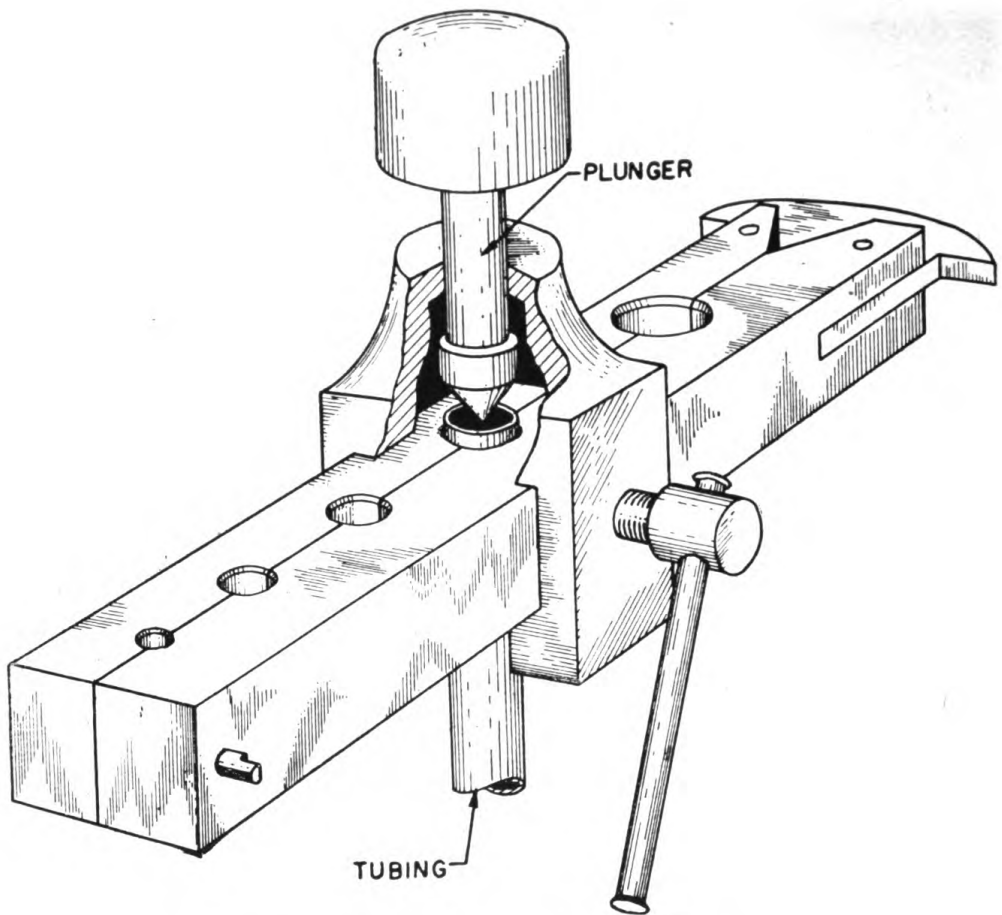
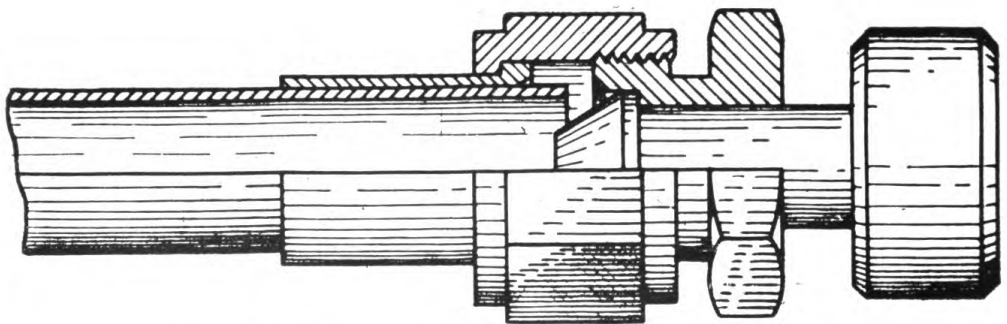

Figure 163. Combination flaring tool in use.
Figure 164. Position of tubing in individual flaring tool.
(2) To flare a tube with the combination flaring tool, the tubing is placed in the proper recess in the tool so that it extends  $\frac{1}{32}$  to  $\frac{1}{16}$  inch (depending on the diameter of the tubing) above the surface of the tool. The tool is then tightened. The plunger (also called the flaring pin) on the top of the tool is then pushed against the tubing and the assembly is checked to make sure everything is in the proper position. (See fig. 163.) A hammer is used to strike the plunger 10 or 12 medium-heavy blows. The plunger is rotated slightly after each hammer blow to insure a uniform flare. The flare sleeve and nut must be placed on the tubing before the flare is made. To make a flared tube connection with an individual flaring tool, the sleeve is placed in the nut, the nut screwed on the tool, and the tubing inserted through the sleeve. (See fig. 164.) The tubing is held and the head of the flaring tool struck with a hammer. The plunger is rotated after each blow to produce a uniform flare.
(3) The proper diameter for a flare depends upon the diameter of the tubing. If available, a go, no-go gauge should be used on each flare to make sure it is of the proper size. If a gauge is not available, the flare may be checked for size with the sleeve and nut. The outside diameter of the flare should be greater than the outside diameter of the sleeve, and less than the inside diameter of the threads of the nut. The diameter of a flare produced with a combination tool depends upon the height